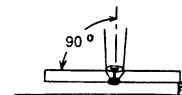

Figure 2.2
3. The electrode should be positioned at a 90° work angle and a 25° to 30° drag angle to perform the weld. (See Figure 2.2.)